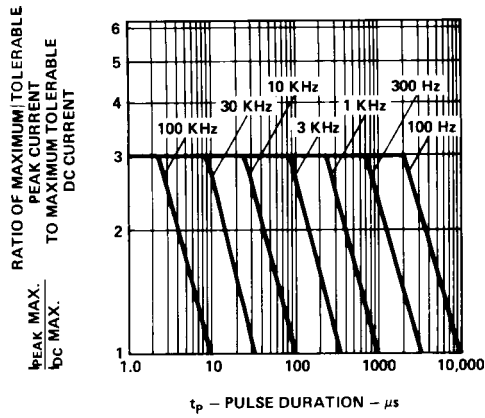

Figure 10. Maximum tolerable peak current vs. pulse duration. ( $I_{DC}$  MAX as per MAX ratings).
- See Figure 10 (High Efficiency Red), 15 (Yellow), or 20 (Green) to establish pulsed operating conditions.